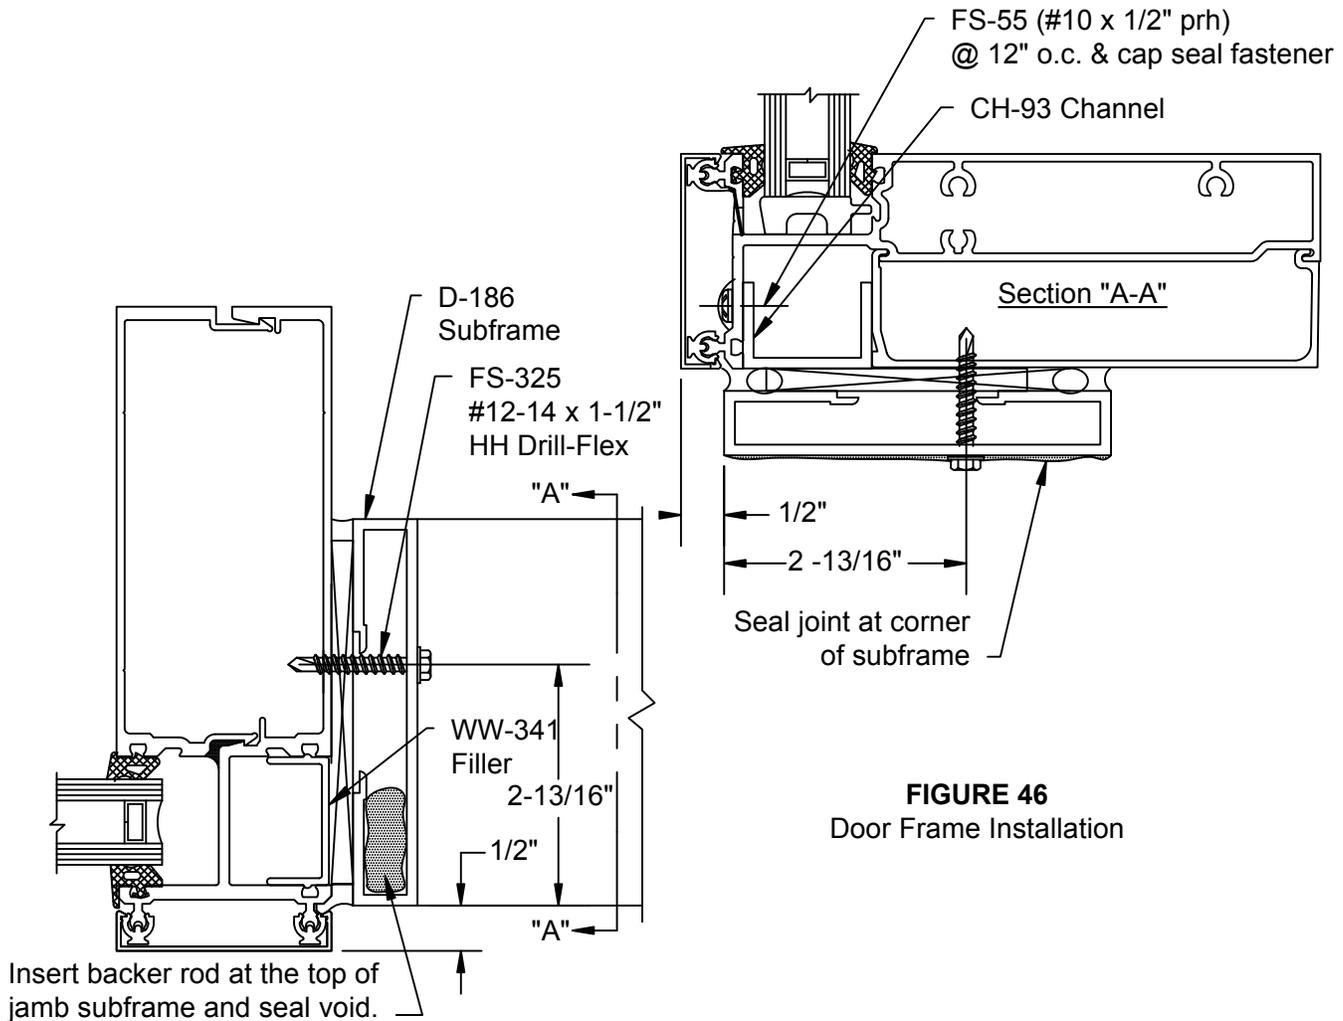

FIGURE 46
- D.2.1 Attach TH-44 threshold clip to bottom of each jamb subframe with two (2) FS-256 #8 x 1 1/2" Phillips Round Head Screws.
- D.2.3 Bed subframes in sealant and anchor to curtain wall framing members with FS-325 #12-14 x 1 1/2" Drillflex at 18" O.C. Seal joint between jamb and header subframes. Seal also the tops of the jamb subframes. SEE FIGURE 46.